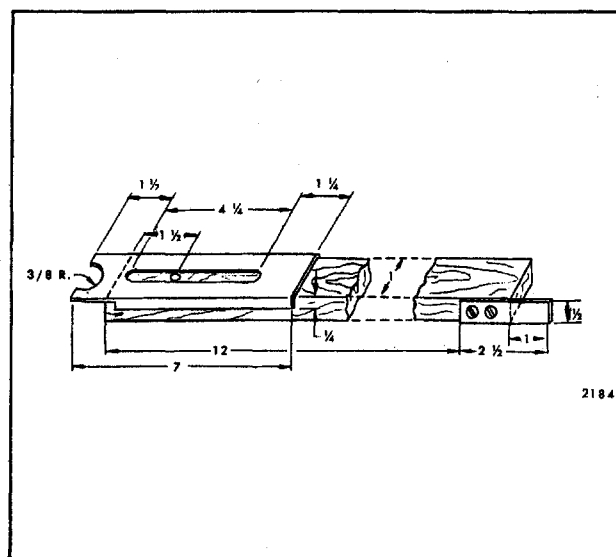

Fig. 6-11—Spacer Stick Dimensions
25. Spacer sticks may be fabricated as shown in Figure 6-11.